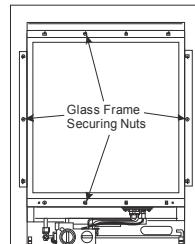

Figure 22
2. Remove the 14 glass frame retaining nuts (see **Figure 22**) and lift off the glass frame. Place in a safe place.